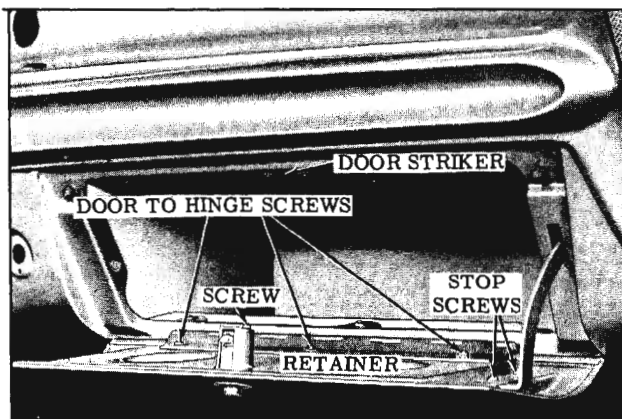

Fig. 16-222 Instrument Panel Compartment Door
2. Remove hinge stop attaching screws from door inner panel. (Fig. 16-222)
3. The door lock striker may be adjusted by loosening attaching screws and moving striker forward or rearward. (Fig. 16-222)
1. Remove hinge stop attaching screws (Fig. 16-222) and remove from body.